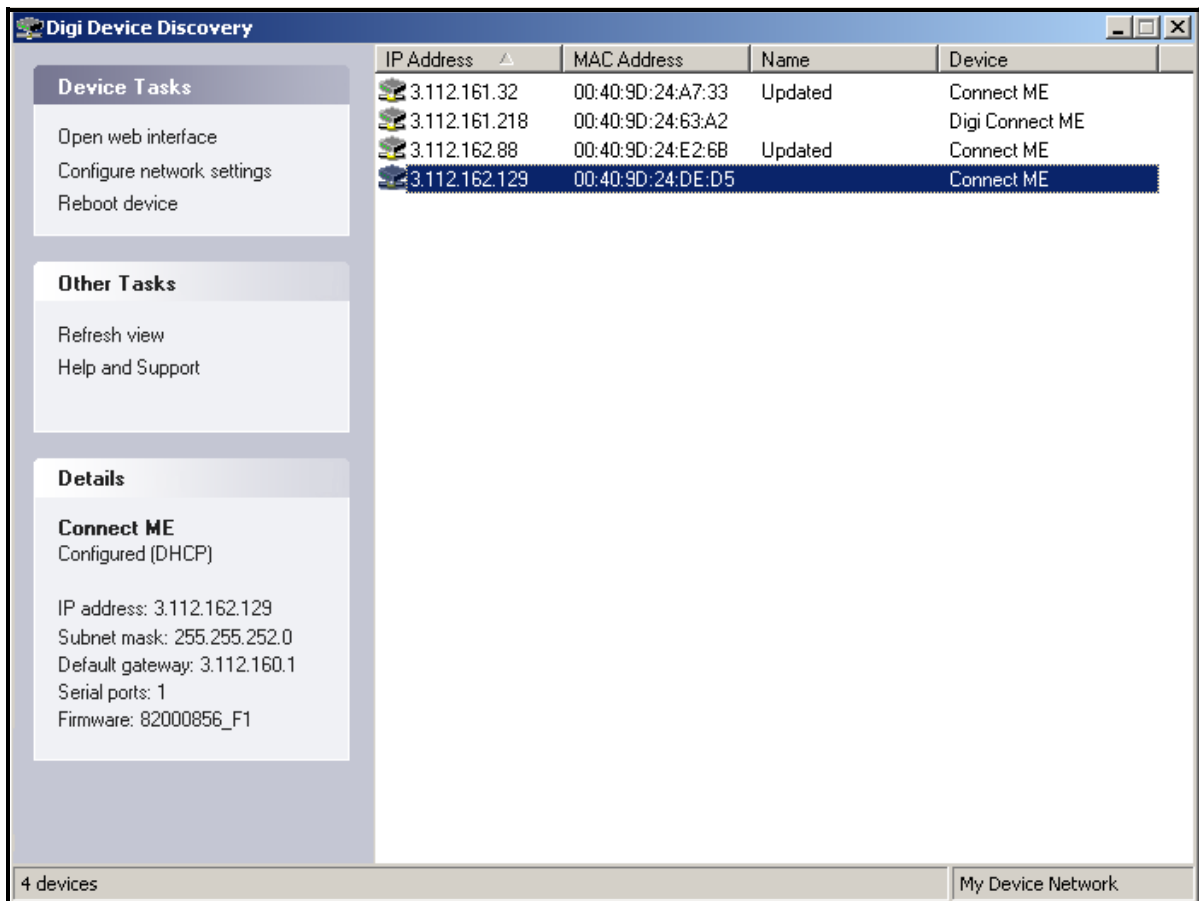

Figure 22: Finding the Assigned IP Address
1. Run the *Digi Device Discovery Program* (see Figure 22).